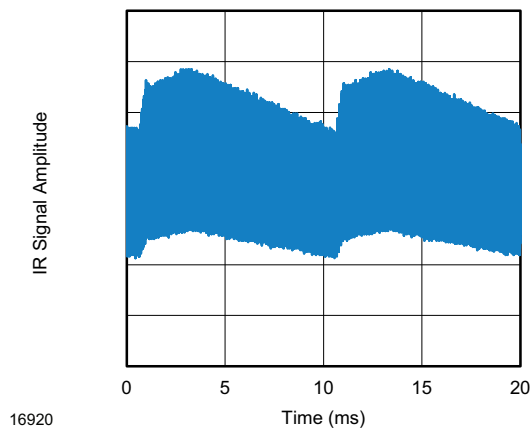
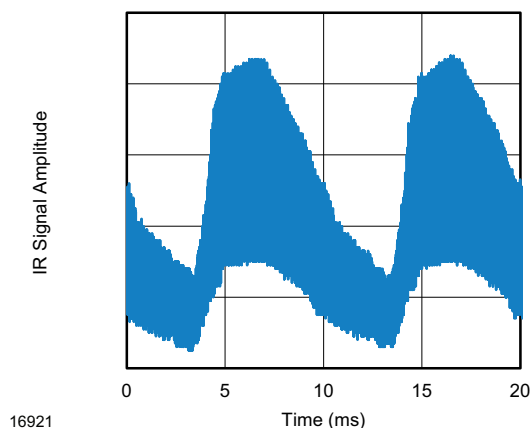

Fig. 13 - IR Signal from Fluorescent Lamp With Low Modulation
Fig. 14 - IR Signal from Fluorescent Lamp With High Modulation
- Strongly or weakly modulated patterns from fluorescent lamps with electronic ballasts (see Fig. 13 or Fig. 14)
| Suppression of interference from fluorescent lamps                            | Fig. 13                         | Fig. 13 and Fig. 14              |